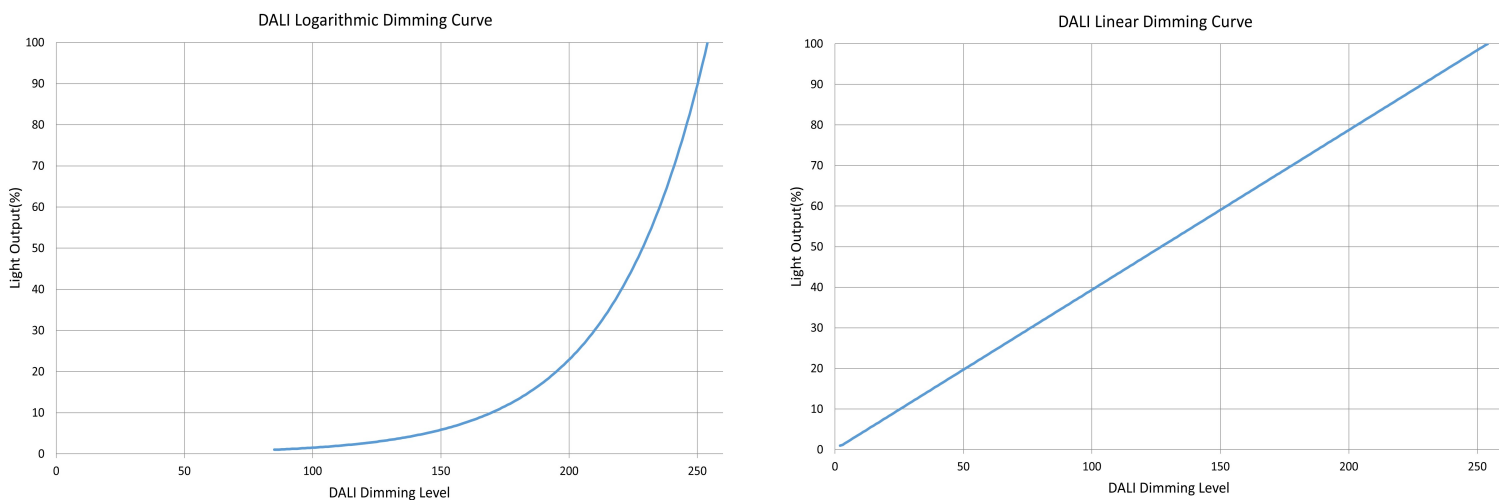

Figure 10. Dimming Curves for DALI Logarithmic (left) and Linear (right)
- > Dimming is possible through the standard digital interface based on DALI 2.0 (IEC 62386 101, 102 Ed2.0). Dimming range is 1% - 100%. Dimming curves are shown in Figure 10. Logarithmic and linear dimming curve options are available. The curve can be configured via the SR (DALI) interface (see table below for various configuration options).